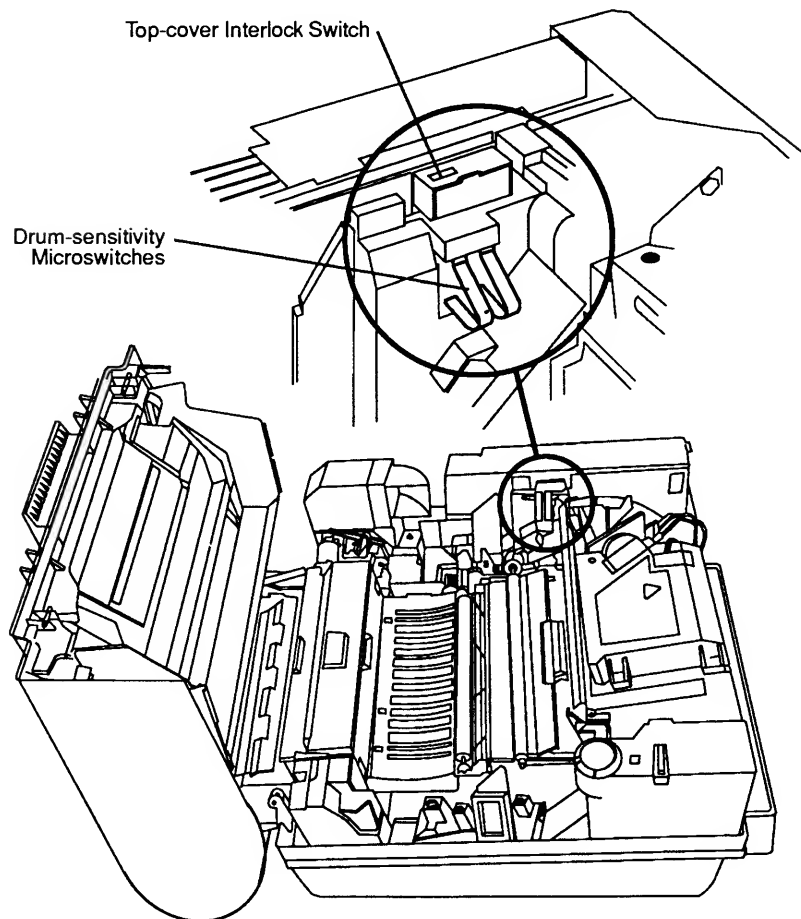

Figure 4-8 Bypassing Top-Cover Interlock Switch
6. Defeat the top-cover interlock switch by inserting a nonmetallic tool into the opening (**Figure 4-8**).
8. Depress drum-sensitivity microswitches SW301 and SW302 (**Figure 4-8**), which are just below the cover interlock switch. With switches SW301 and SW302 depressed, press the engine self-test switch.